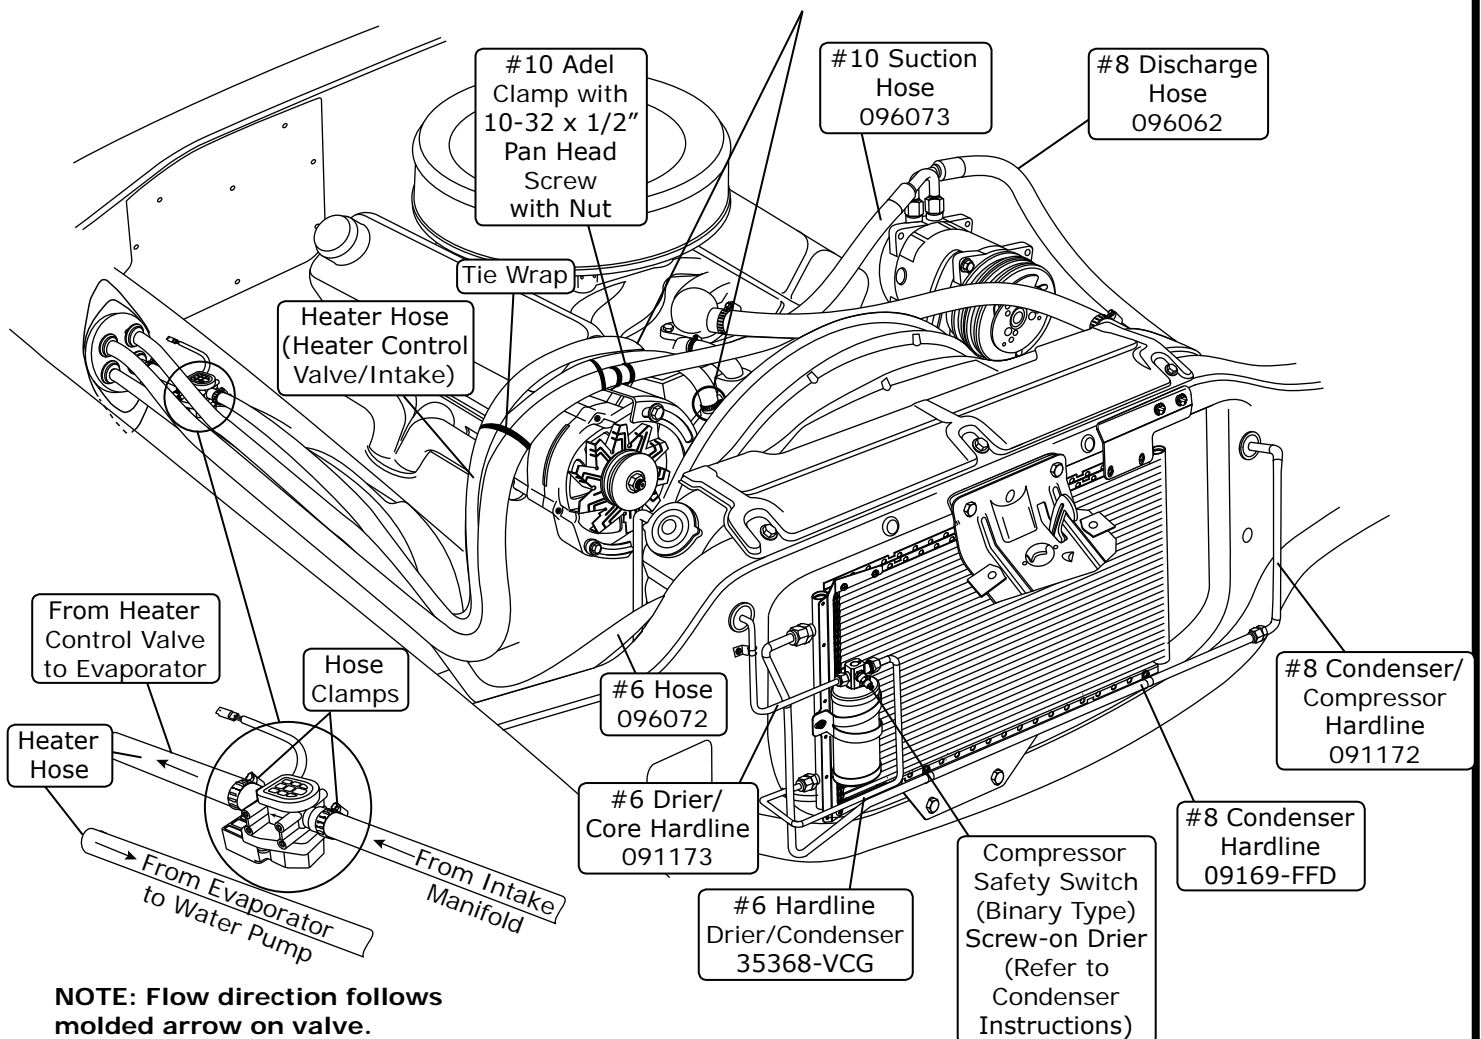

Figure 1
2. Route a piece of heater hose from the intake to the bottom heater fitting of the heater core as shown in Figure 4, Page 15, and Figure 1, below. **NOTE: Install heater control valve in line with intake manifold (pressure side) heater hose. Secure using hose clamps as shown in Figure 1, below. Also note proper flow direction.**